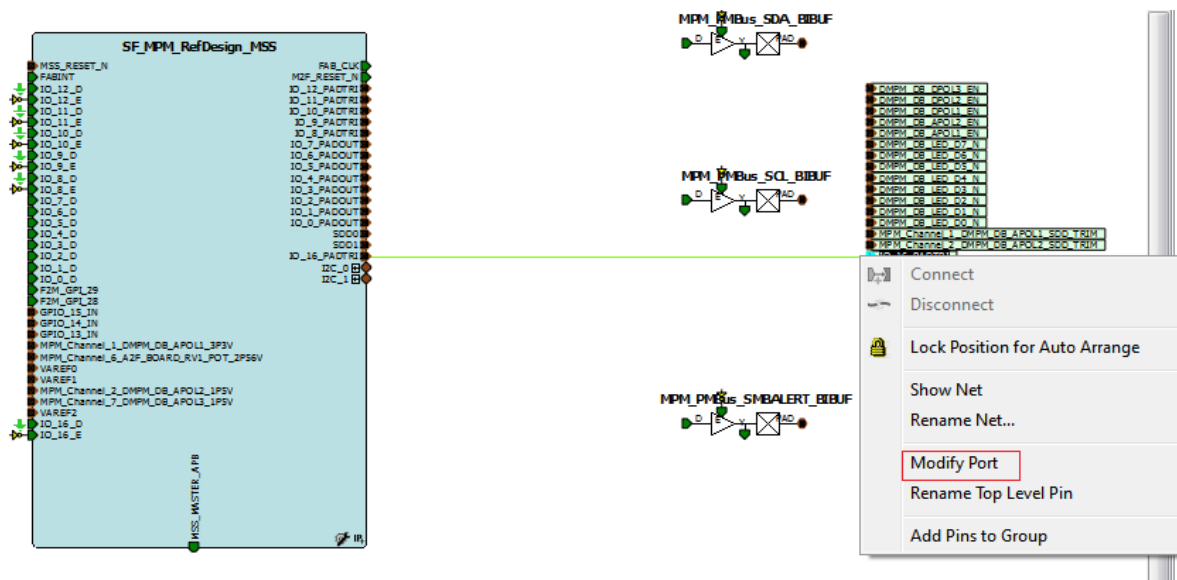

Figure 28 • Selecting Modify Port
9. Right-click the IO_16_PADTRI pin of SF_MPM_RefDesign_MSS and select Modify Port as shown in Figure 28.